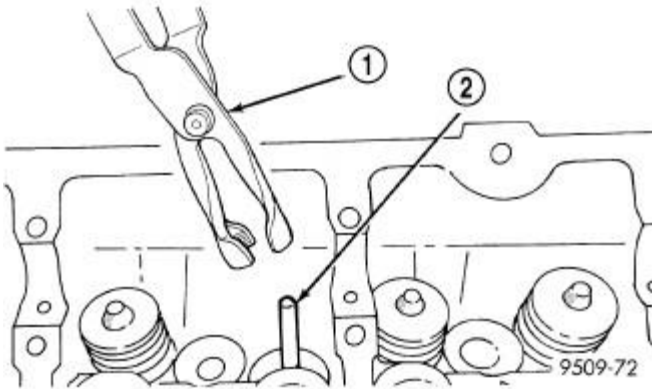

Fig. 282: Valve Stem Seal - Removal
2. Remove valve stem seals by using a valve stem seal tool. Refer to **Fig. 282**.